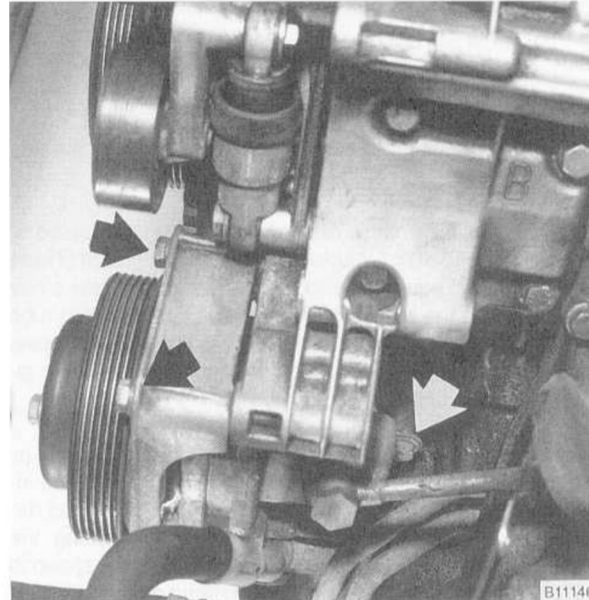

Fig. 6. Power steering pump mounting bolts (arrows)
5. Without disconnecting any fluid lines, remove the power steering pump and its bracket from the engine block. See Fig. 6. Support the pump from the body using stiff wire.